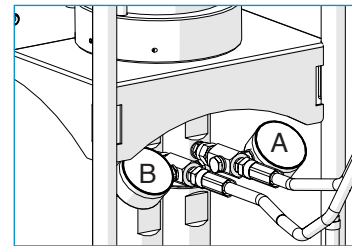

Fig. 12 Connecting material hoses
1. Connect the material hoses to the material outlet of the associated material pump, see Fig. 12.